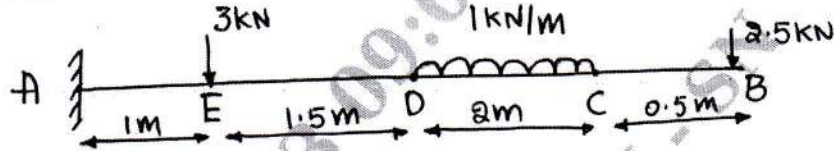

Fig. Q3 (c)
c. A Cantilever of length 5.0 m is loaded as shown in Fig. Q3 (c). Draw S.F and B.M diagram for the cantilever.